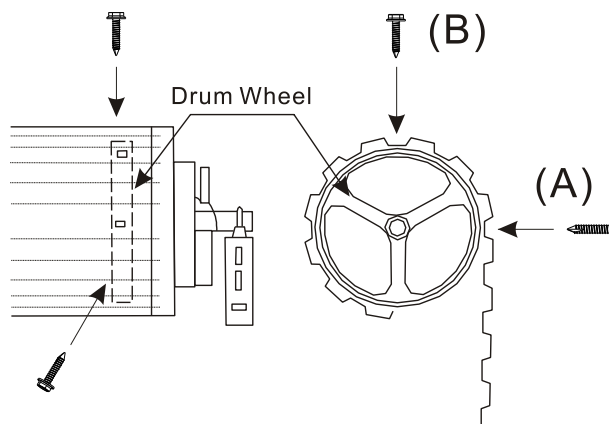

Fig 13
2.2 With the door in the fully closed position, mark the curtain at points (A) and (B) **Fig 13**